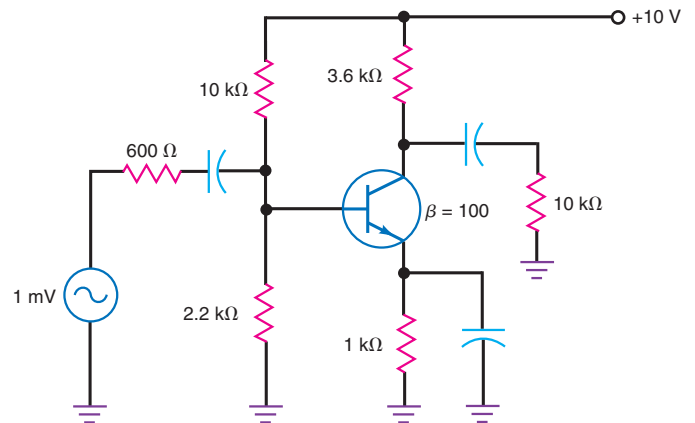

Figure 33-55
- 33.16 What is the ac resistance of the emitter diode in Fig. 33-55?
- 33.17 What is the output voltage of Fig. 33-55?
- 33.18 What is the gain of the amplifier in Fig. 33-55 if the emitter bypass capacitor is removed?